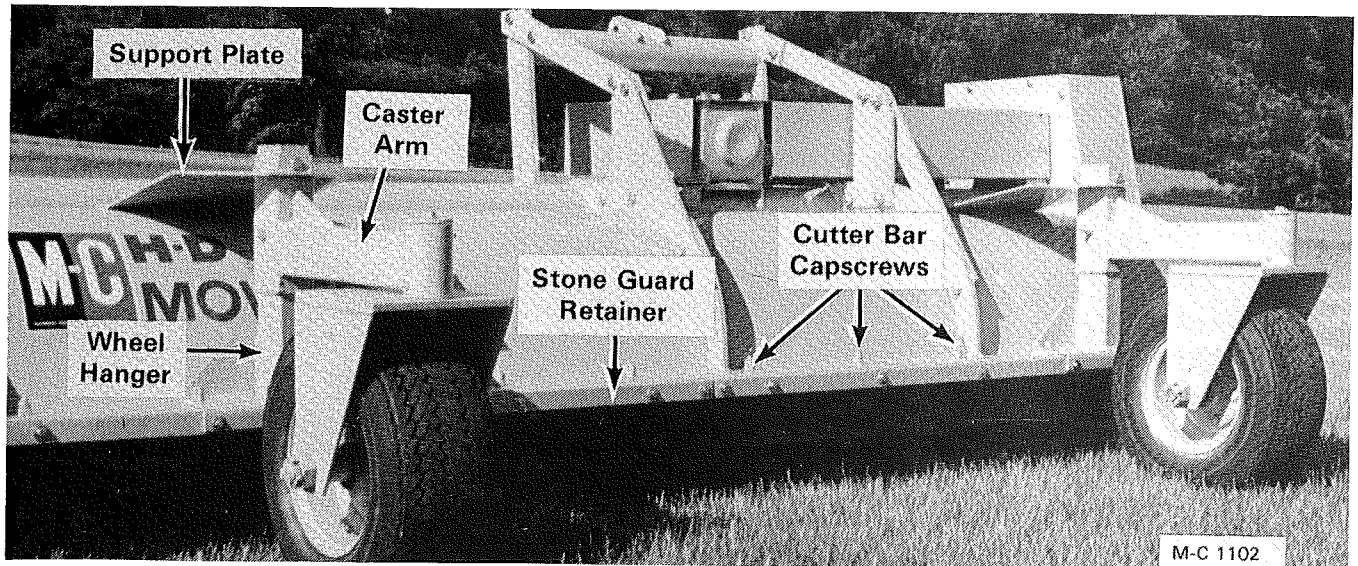

Figure 4
## Caster Wheels (See Figure 4, 5, & 6)
If the mower has one caster wheel mount it in the center of the mower. If the mower has two caster wheels mount them as shown in Figure 4.
1. Remove two cutter bar capscrews and two stone guard retainer capscrews (remove four if the caster wheel is mounted in the center of the mower). Install the wheel hanger with the capscrews that were removed, see Figure 4.